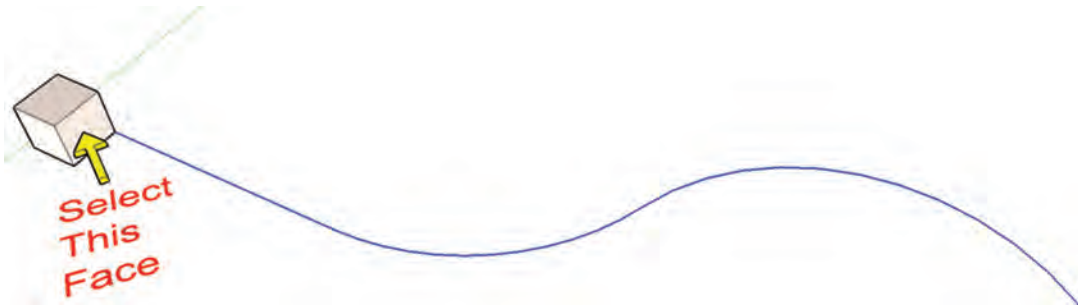

Fig. 8-9: Select the edge and two arcs. Activate Follow Me and select the indicated face on the cube.
4. Select the edge and the two arcs. With all three selected, activate Follow Me (View > Toolbars > Modification > Follow Me) and then select the face on the cube that is perpendicular to the edge and arcs (Fig. 8-9).